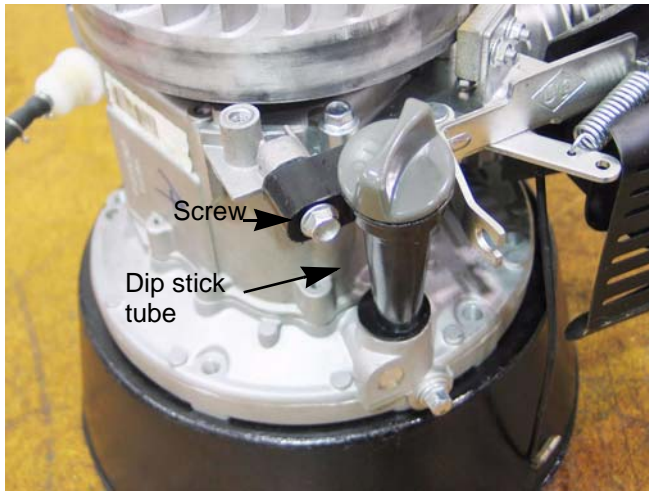

Figure 5.3
Some MTD engines come with a dip stick tube, depending on the application. See Figure 5.3.
2. Remove the screw at the top of the dip stick tube. See Figure 5.3.